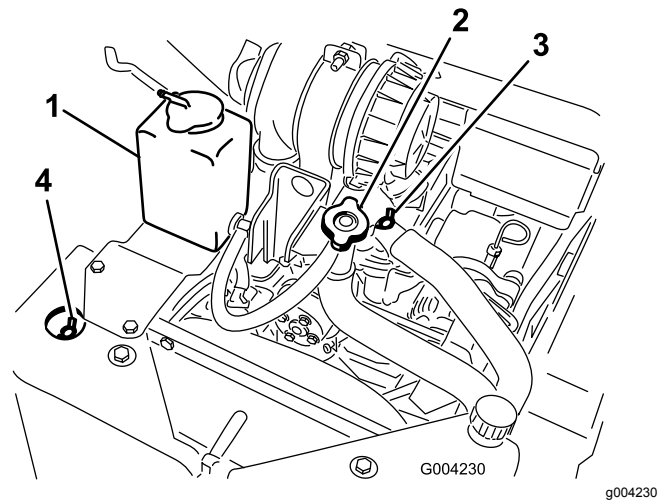

Figure 51
A. Remove the coolant-fill cap (Figure 51).
- B. Open the front and top coolant-bleed valves (Figure 51).
- C. Pour coolant into the coolant-filler neck until the coolant begins to come out of the front coolant-bleed valve (Figure 51).
- D. Close the front coolant-bleed valve (Figure 51).
- E. Pour coolant into the coolant-filler neck until the coolant begins to come out of the top coolant-bleed valve (Figure 51).
- F. Close the top coolant-bleed valve (Figure 51).
- G. Pour coolant into the coolant-filler neck until the coolant level comes into the filler neck (Figure 51).
- H. Install the coolant-fill cap (Figure 51).